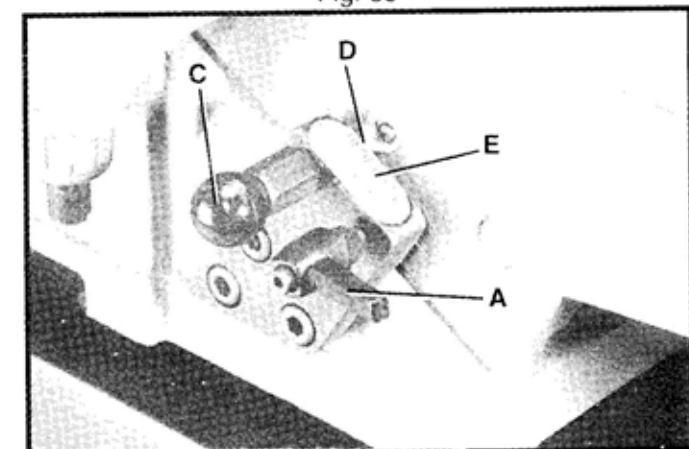

Fig. 36
2. **NOTE:** When raising or lowering the infeed table a plunger located on other end of the index stop (C) Fig.36, automatically stops the table at 1/8 inch depth of cut. To move the table past this point it is necessary to pull out index stop (C) and move the table up or down.
3. The depth of cut of the infeed table (position of table in relationship with the cutting circle) can be read with the pointer (D) Fig.36, and scale (E). Maximum table depth adjustment with this 6" jointer is 1/2 inch.